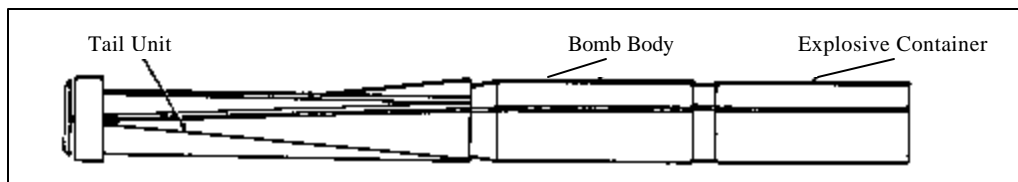

Figure 25. High-explosive incendiary bomb.
- (e) Some small incendiary bombs have an explosive charge that explodes after a delay to deter fire fighters. The soldier must consider all small incendiaries to contain explosive devices like the one shown in Figure 25.